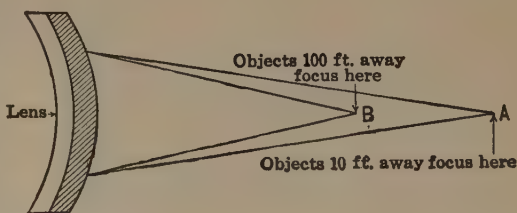

FIG. 295.—Position of image depends upon distance of objects.
**The focus.** In Fig. 295,  $A$  is the focus for objects 10 feet from the lens, and  $B$  the focus for objects 100 feet from the lens. If the focal length of the lens is 3 inches, the distance between  $A$  and  $B$  is  $\frac{3}{16}$  inch, but if the focal length is 12 inches it is  $1\frac{3}{4}$  inches from  $A$  to  $B$ . If a camera has a lens with 3-inch focal length and the plate is placed halfway between the two focal points  $A$  and  $B$ , no matter at what distance the object is, it will be very little out of focus. Such a lens is used in **fixed-focus cameras** to take pictures up to  $3\frac{1}{4}$  by  $4\frac{1}{4}$  inches. With the size of stop used in these cameras, no blurring due to poor focus can be detected, and the camera has the advantage of being always in focus. With a focusing camera the size of stop used is important. If you have focused upon an object 15 feet away with a large stop, objects 10 feet and 20 feet away will be somewhat blurred; but as you reduce the opening, they become sharper, and at stop 32 all objects 10 feet away